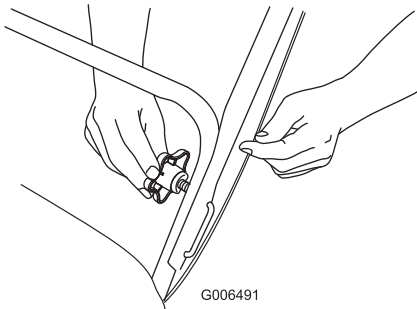

Figure 5
1. U-shaped handle lock (2)    2. Handle knobs
2. Insert the end of the U-shaped handle lock into the open hole in the handle and tighten the handle knobs until they are snug (Figure 5).